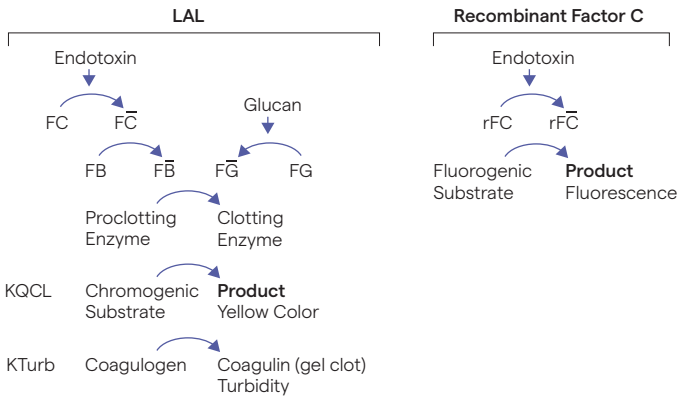

Figure 1:
The protease cascade and rationale of traditional LAL tests are illustrated in the LAL Pathway, Figure 1 (next page). Factor C, the first component in the cascade, is a protease zymogen that is activated by endotoxin binding^{5, 6, 7}. In this pathway, Factor B (FB) is activated by Factor C. An alternative pathway, the Factor G (FG) pathway, can be activated by glucan binding⁸. Downstream, Factor C and Factor G pathways individually activate a proclotting enzyme into a clotting enzyme. The chromogenic LAL assay (Lonza's Kinetic-QCL[®] Assay) uses a synthetic chromogenic peptide substrate that can be cleaved by the clotting enzyme, resulting in a product that exhibits a yellow color. The turbidimetric assay (Lonza's PYROGENT[®] 5000 Assay, KTurb) uses the native substrate, coagulogen, which can be cleaved into coagulin. Coagulin then begins to self-associate, resulting in an increase in turbidity. The densities of the yellow color (OD 405 nm) and turbidity (OD 340 nm) are correlated with endotoxin concentration.
Recombinant Factor C is activated by endotoxin binding, and the active moiety created then acts to cleave a synthetic substrate resulting in the generation of a fluorogenic compound (Figure 1, rFC pathway). The assay is carried out in a 96-well plate. Fluorescence is measured at time zero and after a one-hour incubation at $37^{\circ}\text{C} \pm 1^{\circ}\text{C}$ in a fluorescence microplate reader using excitation/emission wavelengths of 380/440 nm. The difference between the one-hour reading and the time zero reading (ΔRFU) is corrected for blank ΔRFU fluorescence. The log net fluorescence is proportional to the log endotoxin concentration and is linear in the 0.005 to 5.0 EU/mL range. Endotoxin in a sample is calculated relative to a standard curve.